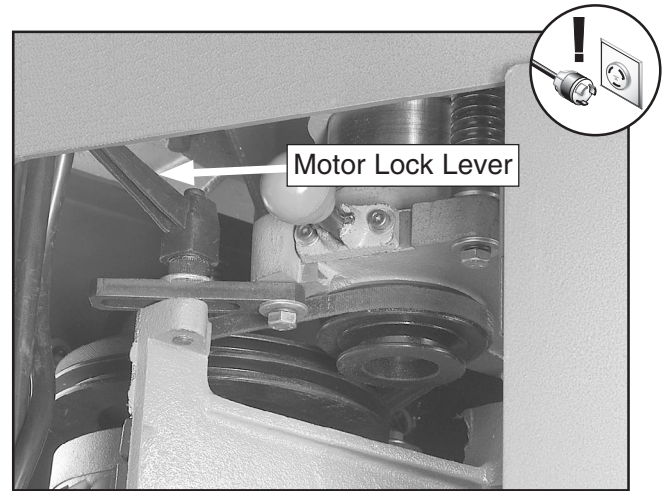

Figure 22. Motor lock lever.
2. Open the motor access door and loosen the motor lock lever shown in **Figure 22**.